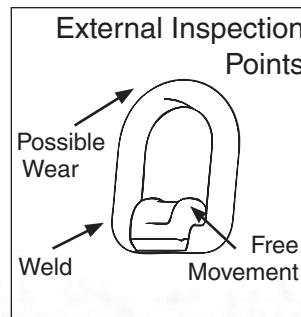

Figure 3
- Regularly inspect weld-on pivoting link parts (Figure 3).
- Regularly inspect hoist ring parts (Fig.3).